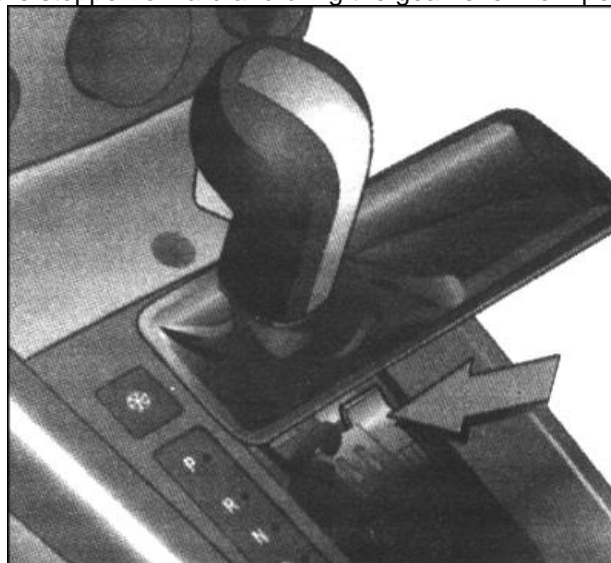

Fig. 1.227. Detent selector lever
3. Use a screwdriver to push the stopper forward and bring the gear lever from position P (Fig. 1.227).